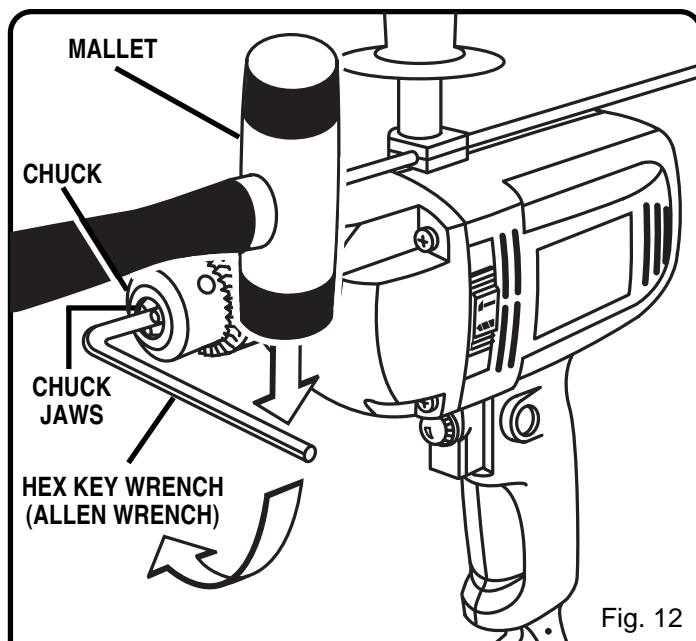

Fig. 12
See Figures 12, 13, and 14.
3. Tap the hex key wrench sharply with a mallet in a clockwise direction. See Figure 12. This will loosen the chuck screw for removal.
2. Insert hex key wrench into chuck and tighten chuck jaws securely. Tap allen wrench sharply with a mallet in a clockwise direction. This will tighten the chuck on the spindle. See Figure 12.